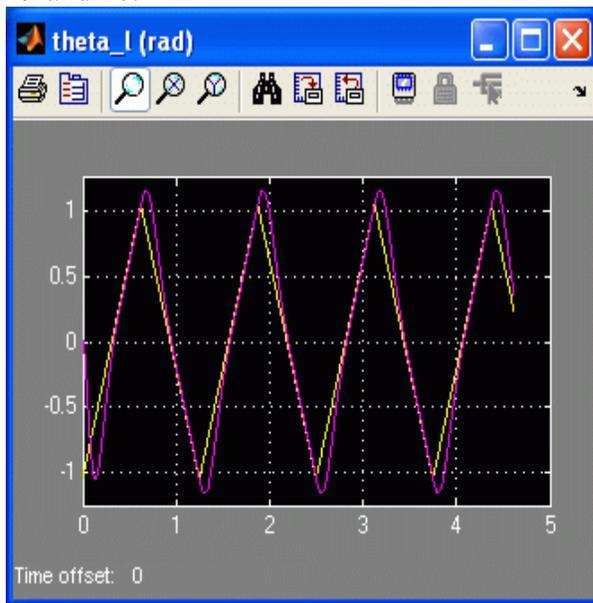

Figure 19: Measured SRV02 PIV ramp response.
12. Start the QUARC controller. The *Ramp PIV* response in the scopes should be similar to figures 19 and 20.